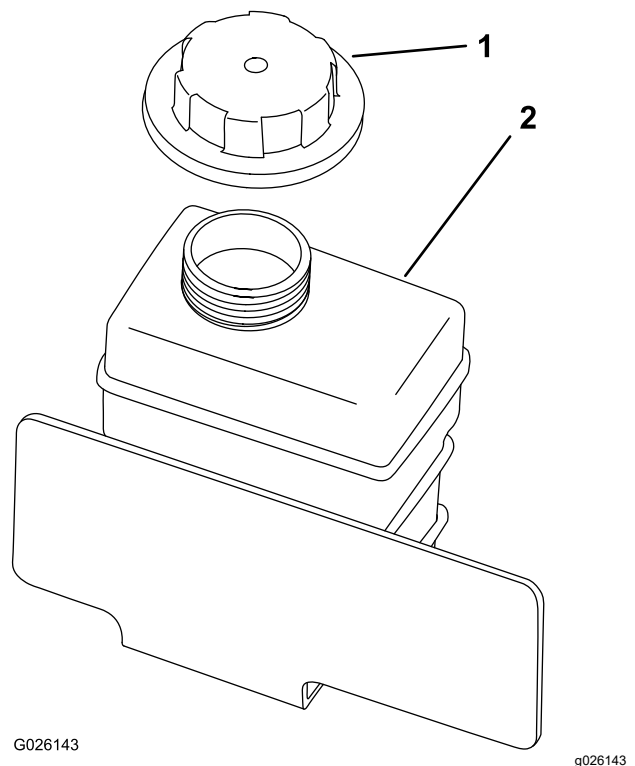

Figure 18
2. Check the coolant level inside the reserve tank (Figure 18).